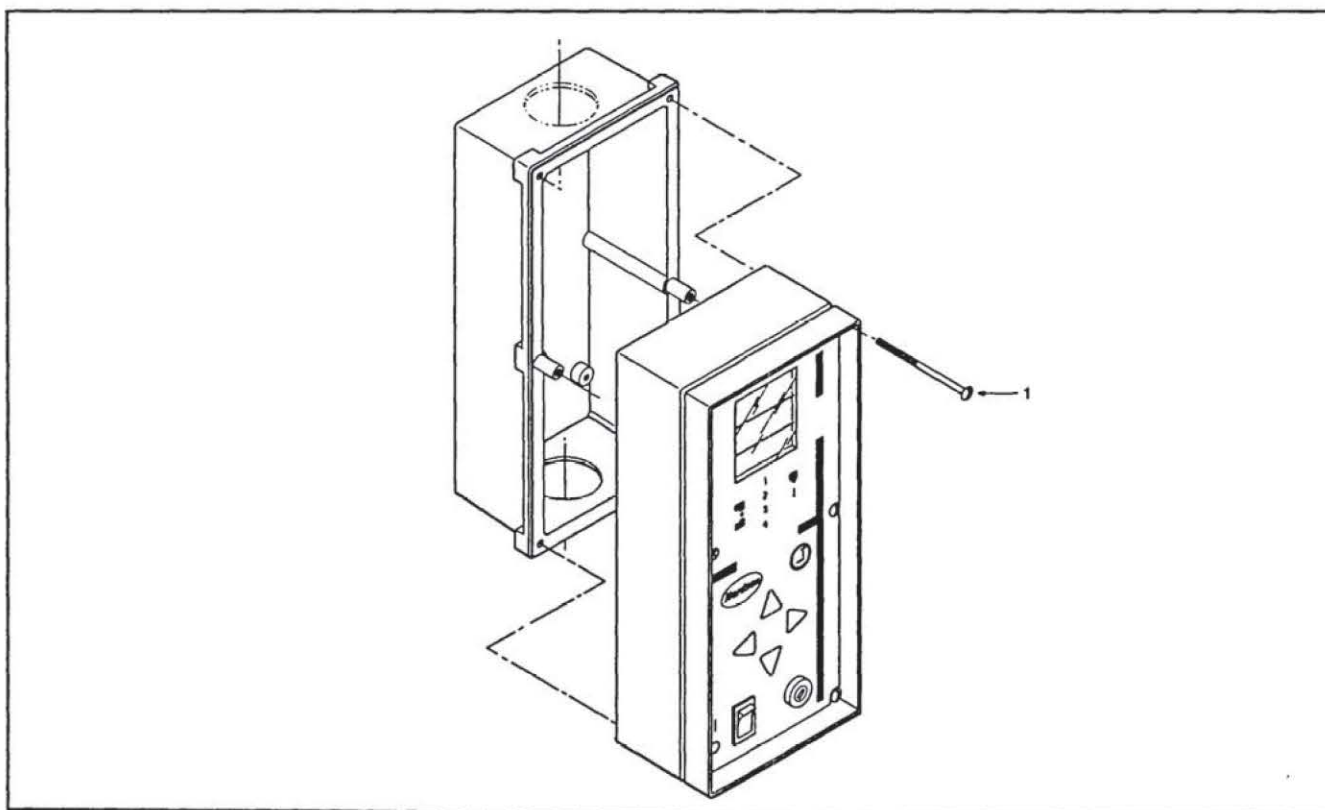

Figure 3.5 - Removing front assembly screws
- b. Remove the two top screws (Figure 3.5).